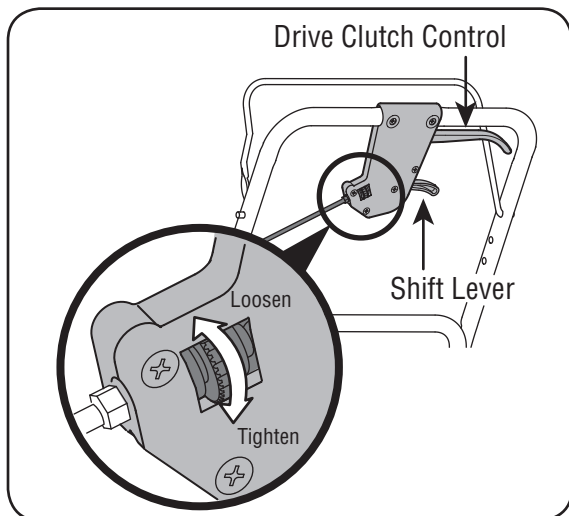

Figure 8
8. Use the adjustment wheel located on the underside of the clutch control housing to tighten the drive belt if mower does not self-propel with the drive clutch control engaged, or if drive belt is slipping (unit hesitates while engine maintains the same speed). See Figure 8.